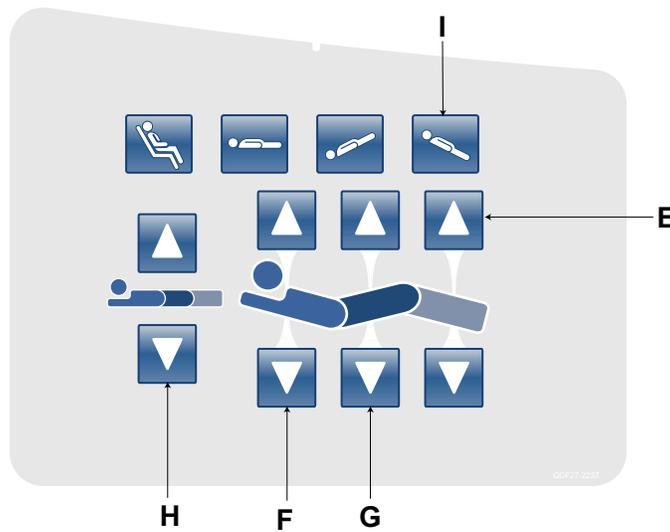

Figure 7 – Litter surface to flat and lowest position
- Place the litter surface to a flat position. Press the **Foot Up (E)**, **Fowler Down (F)**, and **Gatch Down (G)** buttons simultaneously (Figure 7).
- Lower the bed to the lowest position. Press the **Bed Height Down (Head Lift Down) (H)** and **Reverse Trendelenburg (Foot Lift Down) (I)** buttons simultaneously (Figure 7).